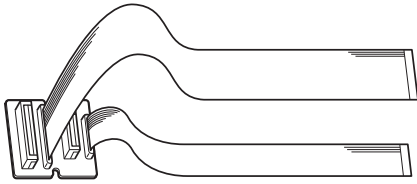

Fig. 1-1
- AD EXTD-1 (Part Number : YWA0EA1196AN) between the Power-2 Board and AD/DA Board as shown in fig. 1-1.